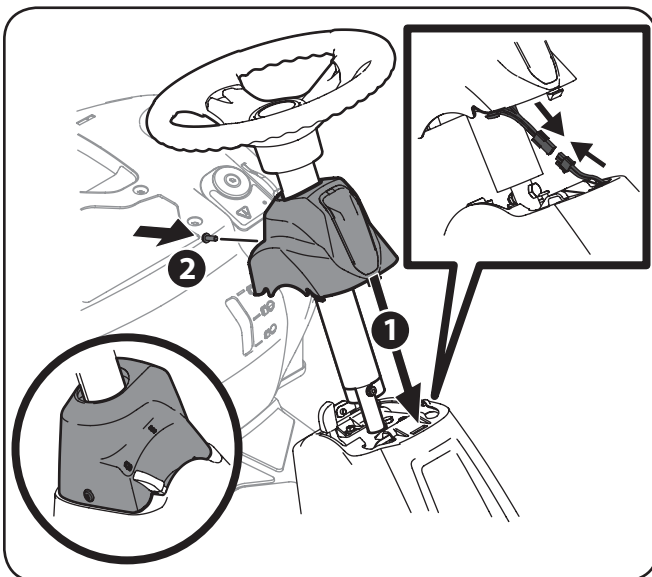

Figure 3-4
7. Slide the pedestal cap down onto the tractor and connect the headlight as shown in the inset of Figure 3-4 (1) and slightly rotate to the right to clip into place. Secure the pedestal with the screw (2) previously removed. See Figure 3-4.